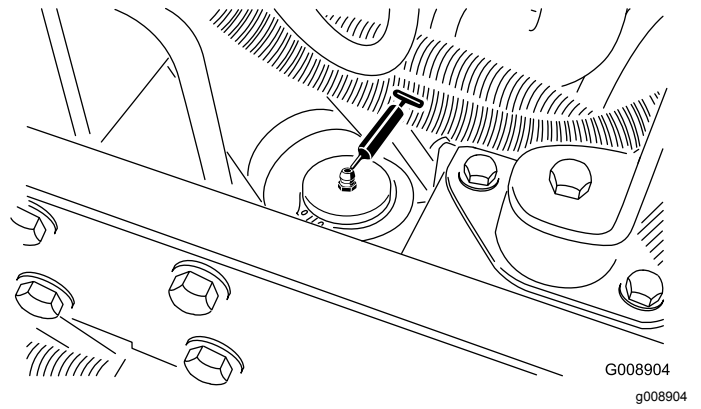

Figure 59
- Steering cylinder (Figure 59).